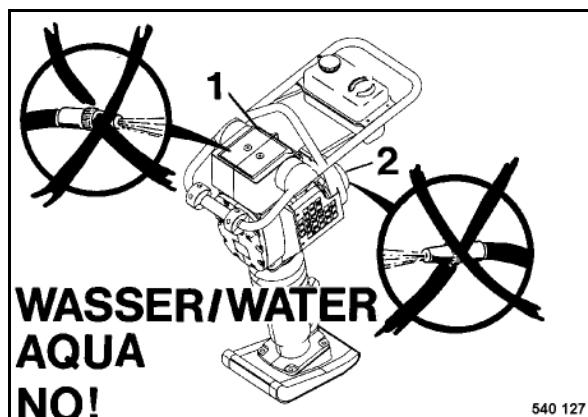

Fig. 31 □
- Do not guide the water jet directly into the air filter (Fig. 31) and into the starter/air intake (2).